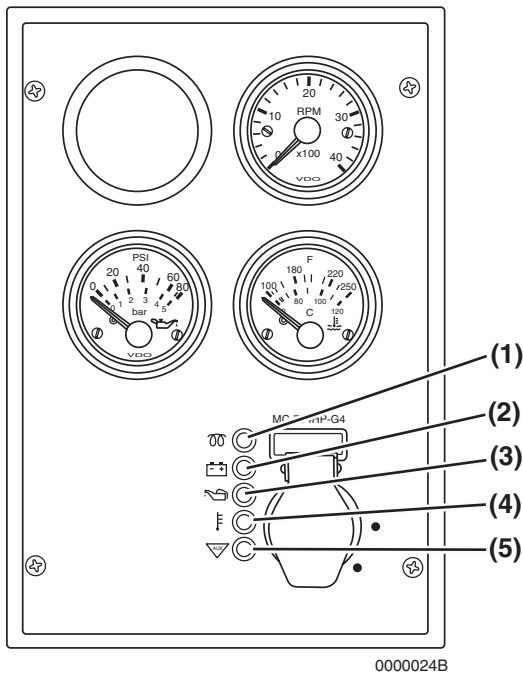
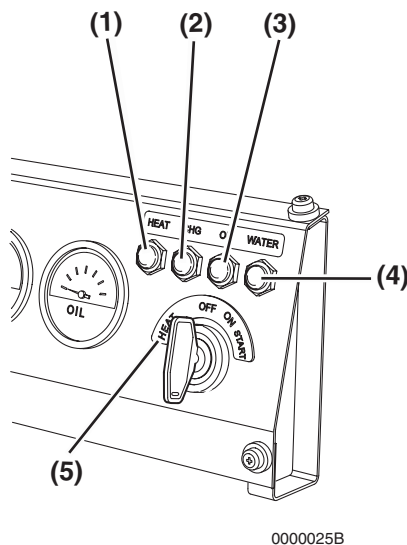

Figure 7
Figure 8
Pre-Heat - (Figure 7, (1)) - The pre-heat function is automatically activated when the key switch is turned to the ON position. The indicator flashes for several seconds and when it goes out you can turn the key switch to START.
Heat - (Figure 8, (1)) - Note that on this type of panel you must turn the key to the HEAT position **(Figure 8, (5))** to activate the inlet air heater(direct injection models) or glow plugs (indirect injection models). The indicator will flash for several seconds when you turn the key to HEAT and when it goes out, you can turn the key switch to START.
Battery - (Figure 7, (2)) or (Figure 8, (2)) - This indicator will come on if there is a problem in the charging system. This indicator does not indicate whether the battery is discharged. See *Troubleshooting Chart on page 99.*
Engine Oil Pressure - (Figure 7, (3)) or (Figure 8, (3)) - This indicator will come on if the engine oil pressure is below or exceeds normal limits. See *Troubleshooting Chart on page 99.*
Engine Coolant Temperature - (Figure 7, (4)) or (Figure 8, (4)) - This indicator will come on if the engine coolant temperature exceeds normal limits. See *Troubleshooting Chart on page 99.*
Auxiliary - (Figure 7, (5)) - Used for special applications.